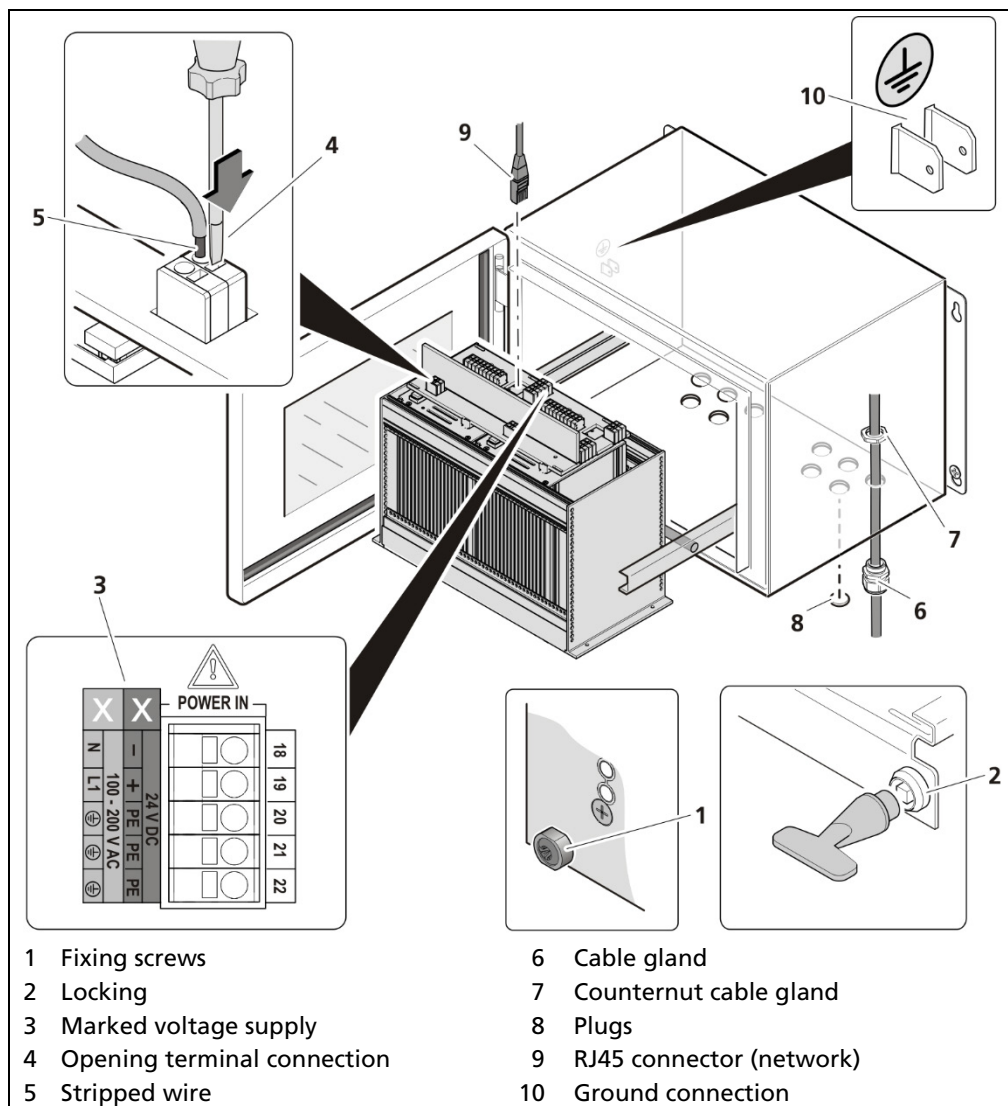

Fig. 19 Electrical connection in the wall housing
1. Make sure that the locking bolts (Fig. 19, item 1) of all modules are tightened in order to prevent slipping.
2. Loosen the lock (Fig. 19, item 2) using the supplied square key and pull the subrack out.
4. Run the cables through the cable glands (Fig. 19, item 6) through the openings of the wall housing and through the counternut cable glands (Fig. 19, item 7).
5. Screw the cable glands (Fig. 19, item 6) with the counternut cable glands (Fig. 19, item 7).
Apply the voltage of the specified and marked (Fig. 19, item 3) range only!
7. Open the terminal connection (Fig. 19, item 4) with an operating tool (slotted screwdriver) and insert the stripped wire (min. 8 mm) (Fig. 19, item 5). The terminal connection closes by pulling out the operating tool. The terminal connections are designed for the flexible wires:
8. Plug the network plug into the RJ45 socket (Fig. 19, item 9) (optional).
9. Tighten all cable glands (Fig. 19, item 6) to ensure optimal sealing and tension relief until the gasket insert closes between screw down nut and cable.